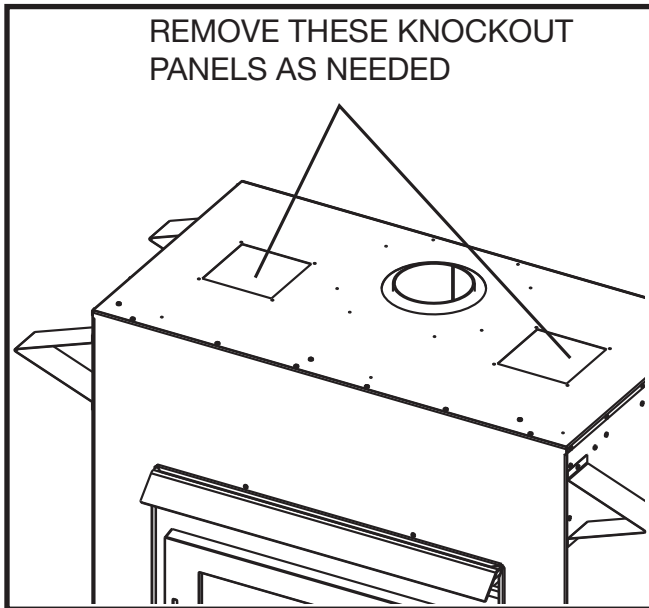

Figure 22: Knock out panels.
1. Remove the desired knockout panel from the top of the unit for each Remote Heat Kit you are installing (Figure 22).